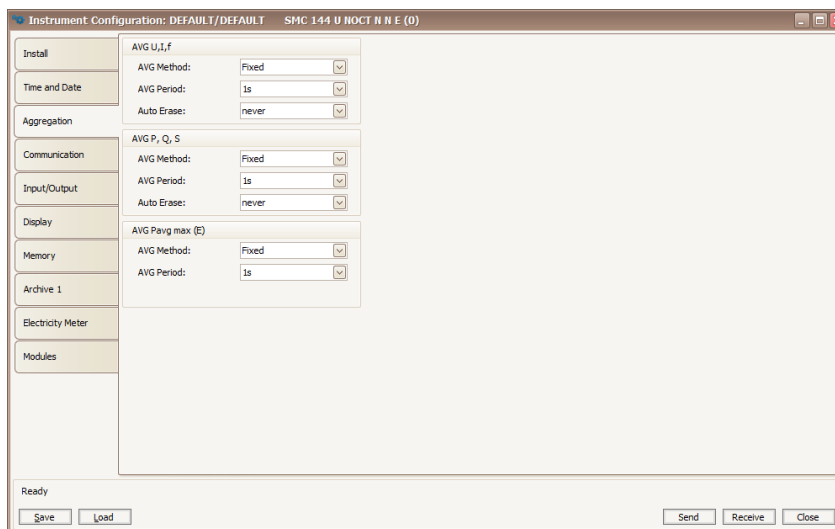

Figure 18: ENVIS.Daq - aggregation configuration defines how instrument evaluates average, minimum and maximum actual values for display and communication.
2.5.3 Aggregation (averaging, fig. 18)